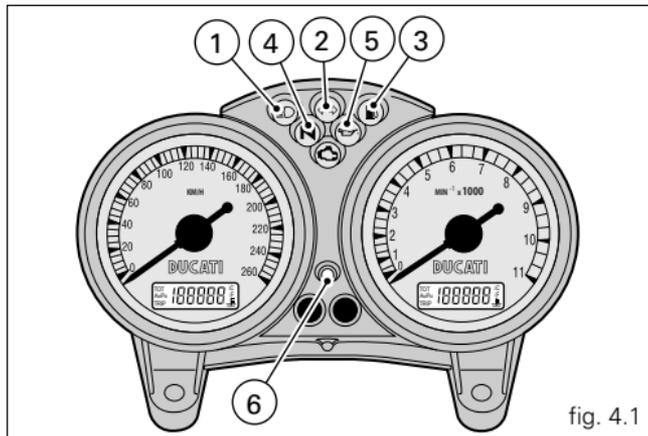
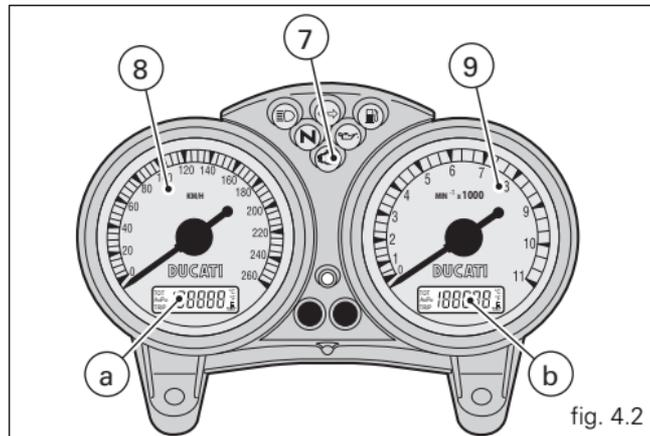

fig. 4.1
fig. 4.2
Instrument panel (fig. 4.1 and fig. 4.2)
In the event of faults in the immobilizer system, the following procedure makes it possible to disable the "engine lock" function, which is indicated by the yellow-amber EOBd warning light (7, fig. 4.1).
The EOBD warning light (7, fig. 4.1) goes off after the pre-set time of 8 seconds.
- 4) Count the number of flashes of the EOBD (7, fig. 4.1) light equal to the first number of the secret code.